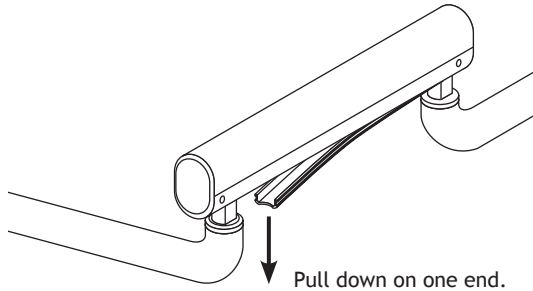

Figure 19. Flex Arm Cover
1. Remove the flexible vinyl cover from the underside of the arm (see Figure 19). Gently pull the tubing and wiring in the arm slightly aside.